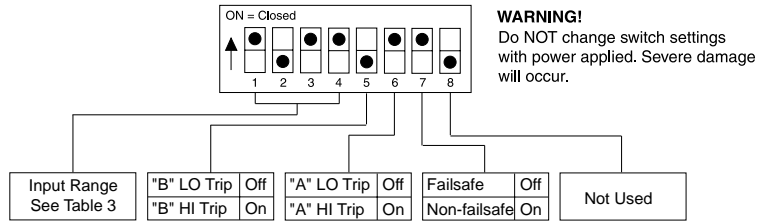

Figure 4: G118 Input Range/Function Selection (SW1) Factory Default Settings
3. Set position 5 and 6 of input range switch “SW1” to ON for a HI trip setpoint or OFF for a LO trip setpoint (Figure 4).